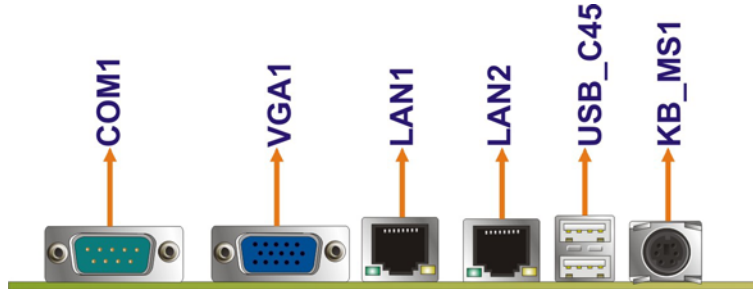

Figure 3-24: NANO-945GSE External Peripheral Interface Connector
Figure 3-24 shows the NANO-945GSE external peripheral interface connector (EPIC) panel. The NANO-945GSE EPIC panel consists of the following:
- CN Location: See **Figure 3-24** (labeled 1)
CN Location: See Figure 3-24
- CN Location:** See Figure 3-24 (see 2)
- CN Location:** See Figure 3-24